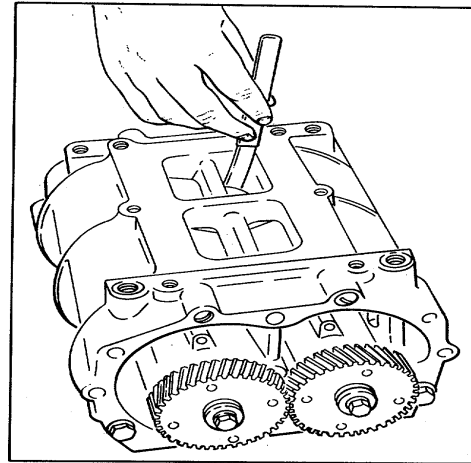

Figure 13. Measuring Rotor Lobe to End Plate Clearance
c. Measure the clearance between the end of the rotor and the blower end plate as shown in Fig. 13. Refer to the chart for the required minimum clearances.